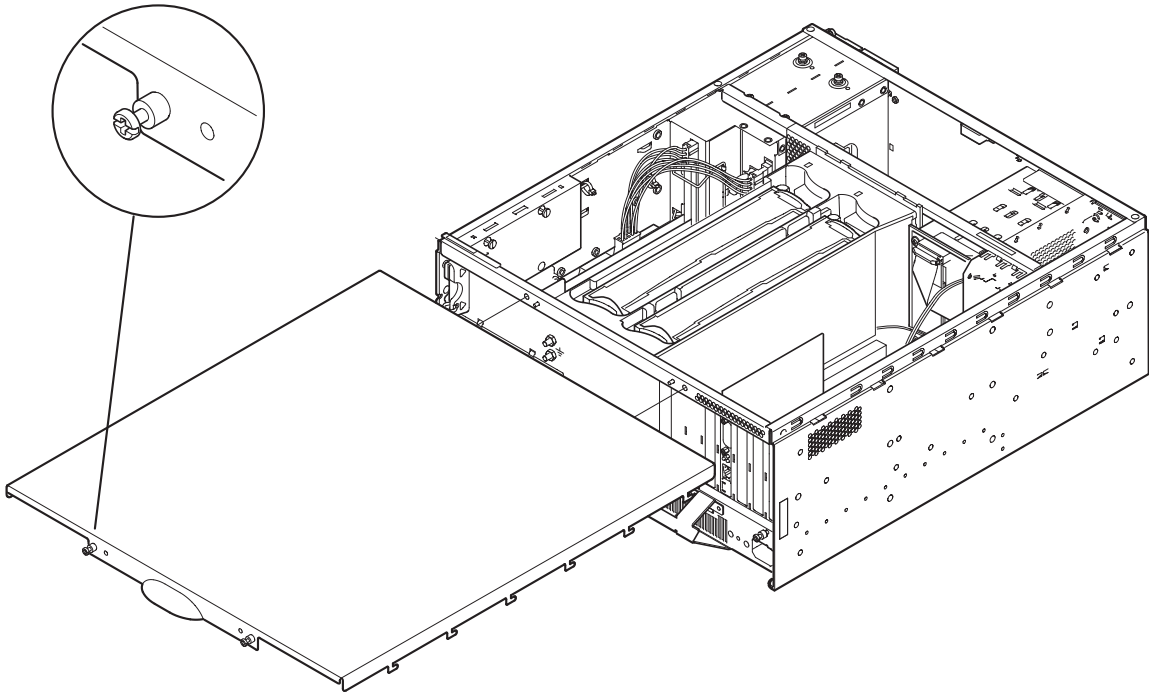

FIGURE 5-4 Top Access Cover
2. With the fixing screws on the access cover towards the rear of the system chassis, locate the lugs on the access cover in the slots on the side panels of the system chassis (see FIGURE 5-4).